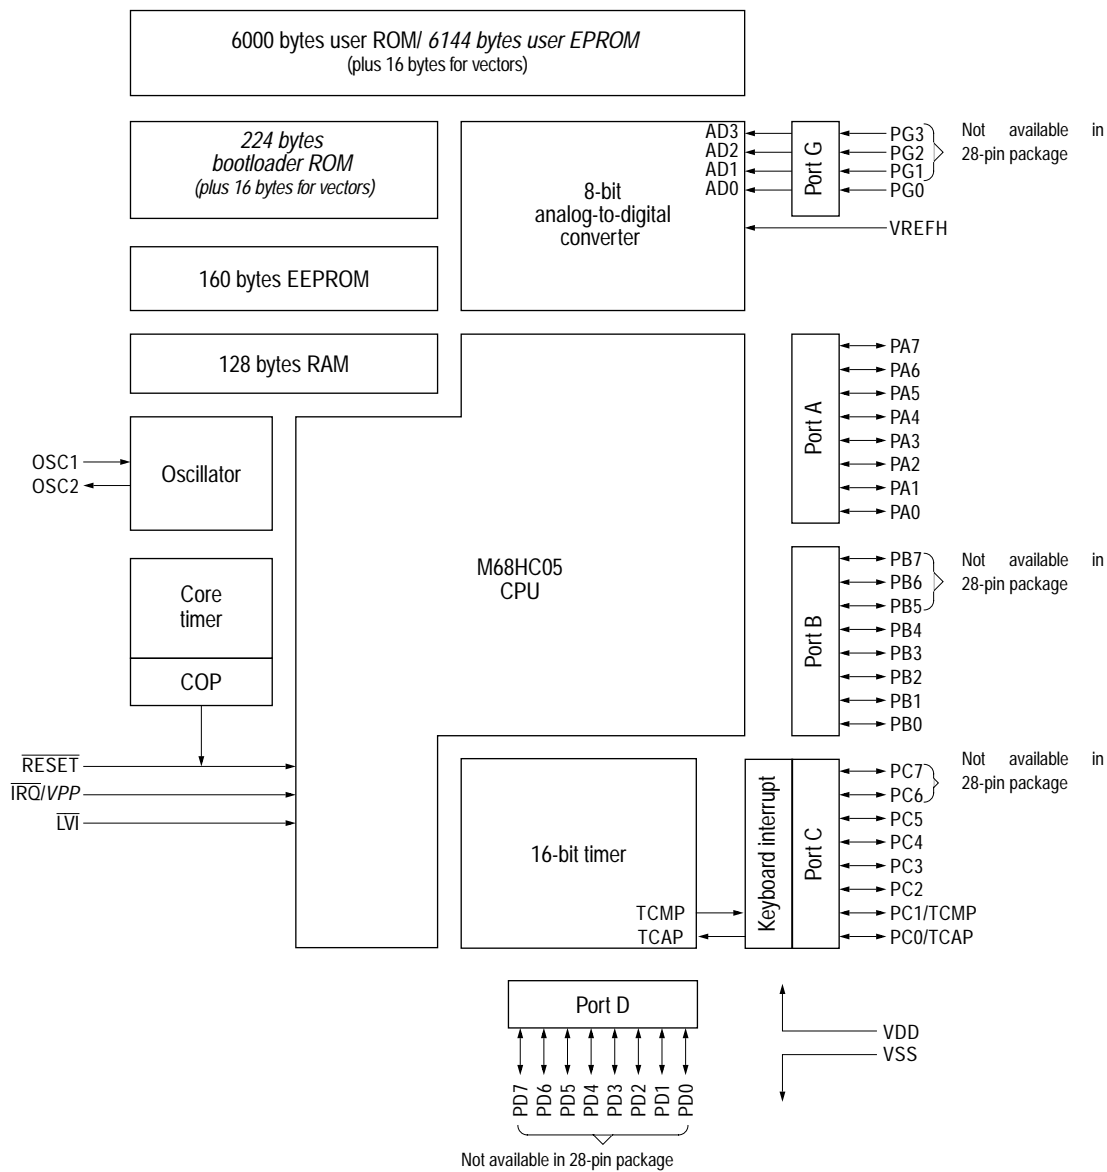

Figure 1 MC68HC05E6 and MC68HC705E6 block diagram
NOTE: *The entire data sheet applies to the 44-pin version of the device, however some of the features are not available to the user when the part is bonded in the 28-pin package (see Figure 1).*
- Available in 44-pin QFP and 28-pin SOIC packages; four of the ports are not fully bonded out in the 28-pin package (see Figure 1)